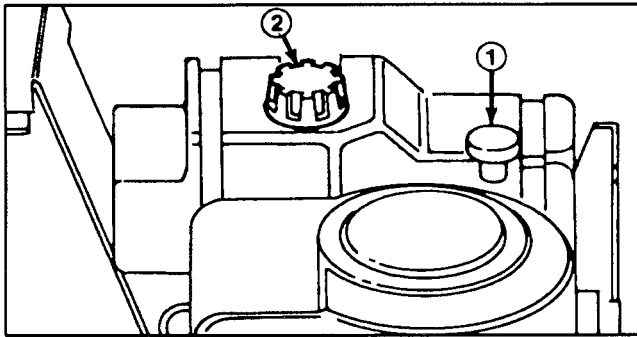

Figure 10
2. Unscrew and remove the dipstick from the oil fill tube (Fig. 10).
1. Clean the area around the fuel tank cap so foreign matter cannot enter the tank when the cap is removed (Fig. 10).